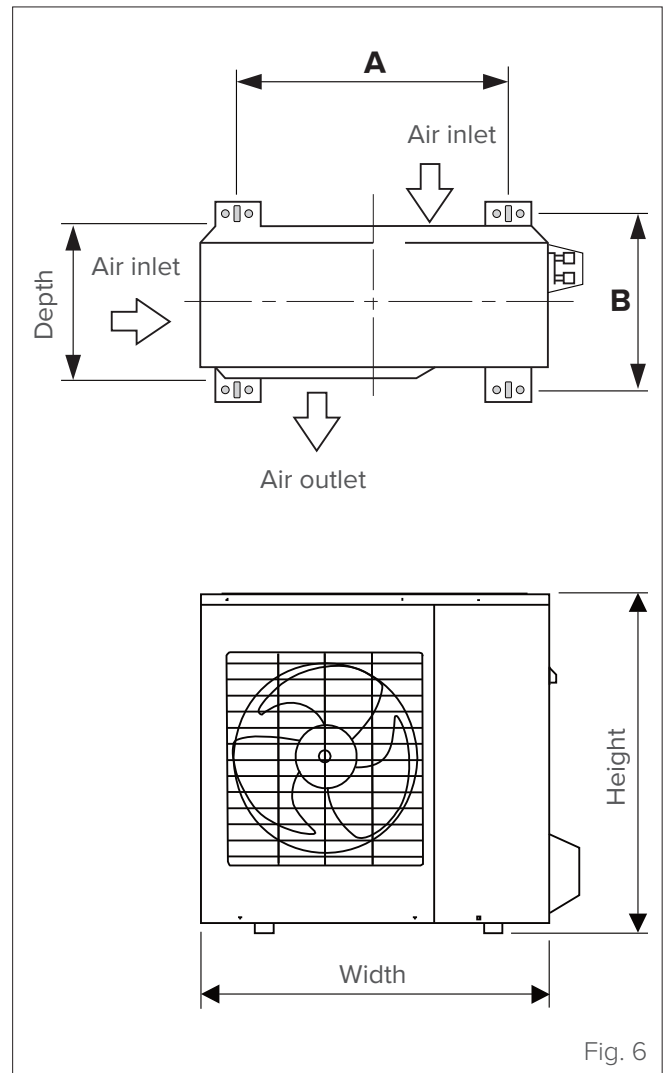

Fig. 6
- 1 Mark the positions of the holes for the brackets according to the measurements in the mounting dimensions diagram (see "Fig. 6").